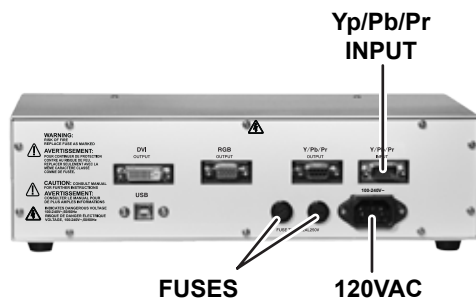

Figure 7 Camera Control Unit (Back)
- If the **AUTO FOCUS** LED is not illuminated, perform the following steps (Figure 7):
- Inspect DB9 connections (Figure 8) at **Y/Pb/Pr INPUT** connector (Figure 7) and at the CCU connector faceplate (Figure 9). Check the continuity of the cable. Replace the cable if necessary.
- If camera control LED is illuminated (Figure 7), inspect output cable from CCU to the display. Check cable connections and cable for continuity. Replace the cable if determined to be faulty.